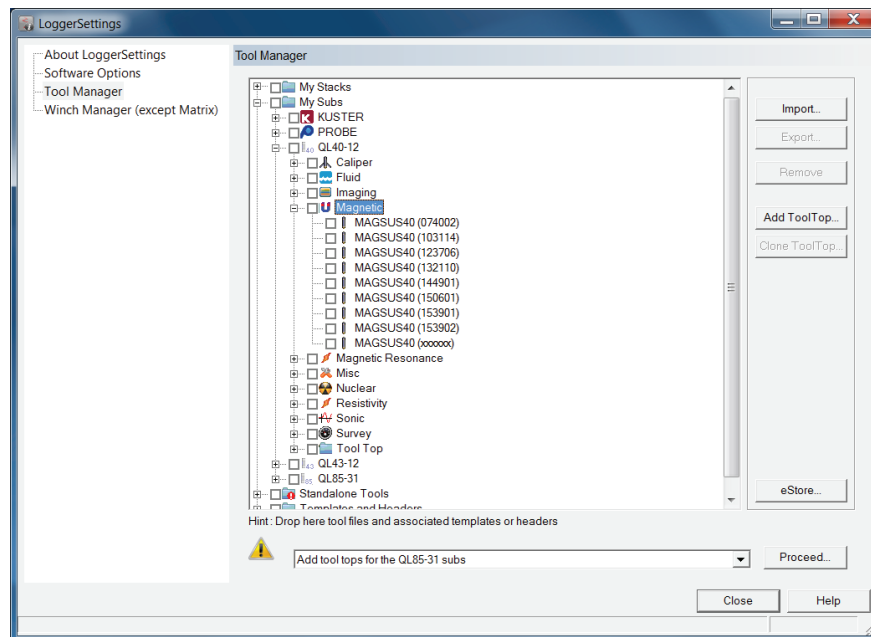

Figure 3-4 Tool Manager Import option
- Alternatively click on the **Import** button (Figure 3-4) and use the file Open dialog box to browse for your configuration files (i.e. *.TOL, *.TOOL, *.SUB, *.STACK, *.WCH, *.WDT, *.BMP files).
The LoggerSettings application recognizes the loaded files and installs them automatically in their designated locations displayed in the tree structure of the Tool Manager page (Figure 3-4).